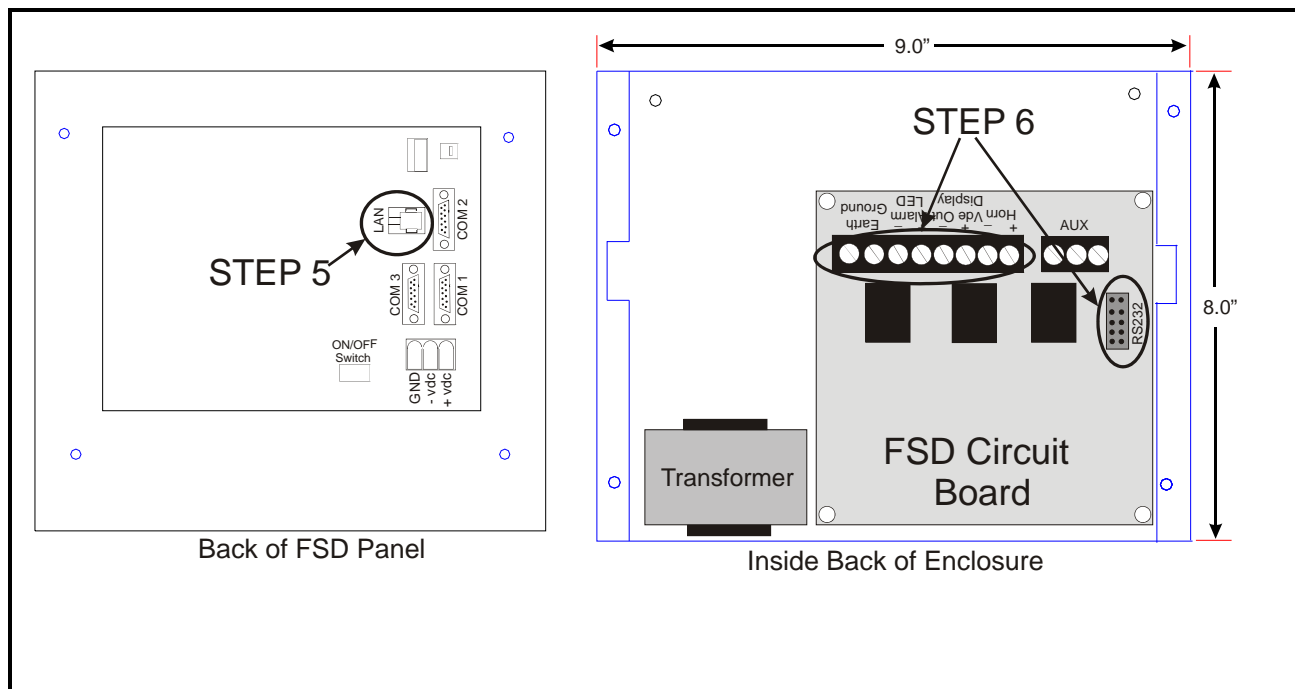

Figure 2-3 - Wiring Layout of FSD Enclosure
5. Plug the Ethernet cable into the RJ45 connector (LAN) on the back of the FSD's display module (P/N 750-5100) as indicated by **Step 5** of *Figure 2-3*.
6. Reconnect the 8-pin connector and RS232 cable to the circuit board in **Step 6** of *Figure 2-3*.